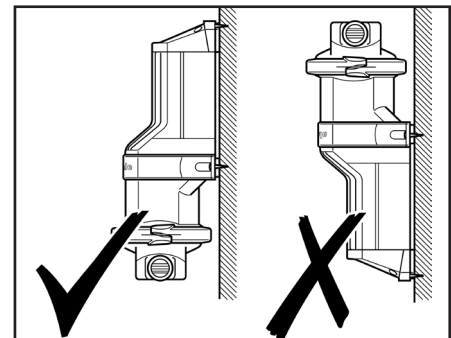

Figure 1 - Pump Orientation
- When mounted vertically ensure that the pump head is lower than the pump body (see Fig 1).